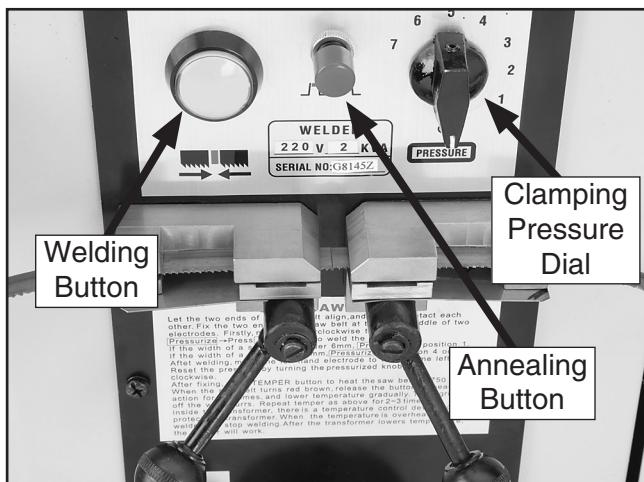

Figure 36. Blade ends in correct position for welding.
5. Set the clamping pressure dial (see **Figure 36**) to "0".
6. Place the other blade end in the opposite welding clamp and position it so that it evenly butts up against the opposing blade end, then lock it in place by rotating the lock lever all the way up, as shown in **Figure 36**.